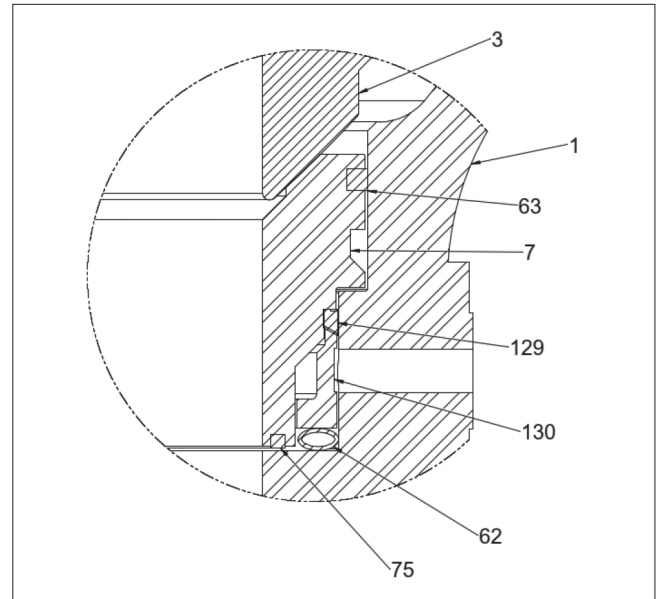

Fig. 7 Seat seals
- Check and clean all components before starting seat (7) assembly.
- The seats (7) of this valve are custom fitted to the ball (3). Replacing one of these components requires each to be refitted. Contact your local Valmet service center when replacing seats or balls.
- With the female body half (1) sitting on a level surface, verify that the seat pocket is free of any contaminant, then lubricate the seat pocket and the back of the seat with "Never Seez".
- Place the seat (7) on a flat surface with the ball/seat contact surface facing down.
- Install braided graphite seals (63 & 75) in the grooves provided, see Figure 7. It may be necessary to tap the seals into the grooves using a dead-blow hammer or other device.
- Ensure the seat seal (129) has the integrated metal anti-extrusion ring intact and adhered to the graphite portion of the seal.
- Lubricate the major OD of the seat (7) with "Never Seez", to aid installation.
- Place the seat seal (129) on the step of the seat (7), with the beveled edge up, see Figure 7.
- Place the set ring (130) on top of the seat seal (129) with the beveled edge down to mate with the seat seal, see Figure 7.
- Install internal wire tool no. 202532 into the seat spring (62) to control the shape of the seat spring leaving a 6 inch long pig-tail hanging out of the ID of the spring. This will be used to remove the wire once the seat is installed.
- Place spring (62) in the seat cavity of the body half (1) with the wire hanging into the flow port.
- Place the pre-assembled seat (7) into the seat cavity on top of the spring. Take care not to allow the set ring (130) to fall off during installation.
- Once the seat (7) is properly installed and the spring (62) is not in danger of getting caught under the edge of the seat during assembly, the wire may be pulled out and removed.
- Repeat the above steps for the male body half (2).